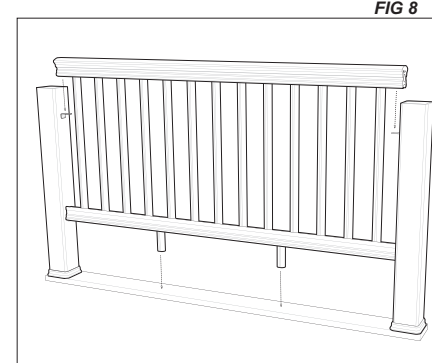

FIG 8
13. Raise the rail and place it between the posts by setting it on the crush blocks and the two top EverGrain brackets. **(Figure 8)**
12. Locate the two remaining stair rail brackets in the stair rail kit. Pre-drill through the top of the bracket into the ends of the bottom universal rails and attach with the 3 provided #10 x 1" screws. **(Figure 8)**